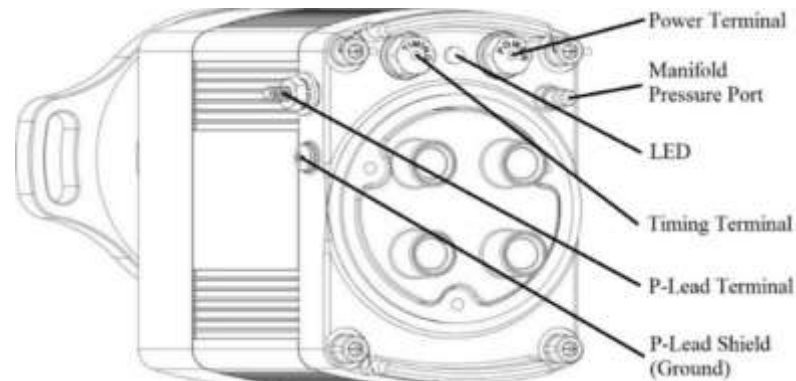

Figure 3
- (5) Disconnect the wires from the Power Terminal, P-Lead Terminal, and P-Lead Shield (Ground) Terminal (Figure 3). Label each wire as it is disconnected to ensure the harness is reconnected correctly.
- (q) Connect the wires to the P-Lead Terminal, and P-Lead Shield (Ground) Terminal (Figure 3) and torque the screws to 15±2 in.-lbs. (1.7±0.2 Nm).